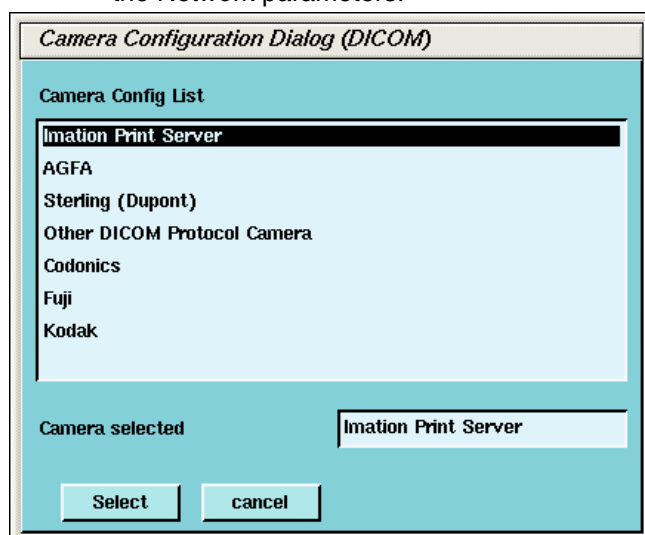

Figure 9-12 Camera Model Dialog (DICOM)
- a.) A list of camera models appears (see Figure 9-12). Select the appropriate model from the list and click SELECT. Clicking SELECT presets all the parameters to that model, except the Network parameters.